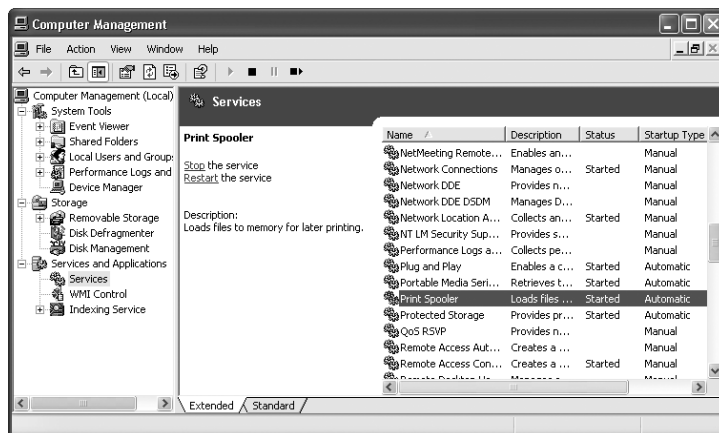

Figure 15-14 The Computer Management tool; Services and Applications
9. Locate and select the **Print Spooler** service in the Extended tab (see Figure 15-14).